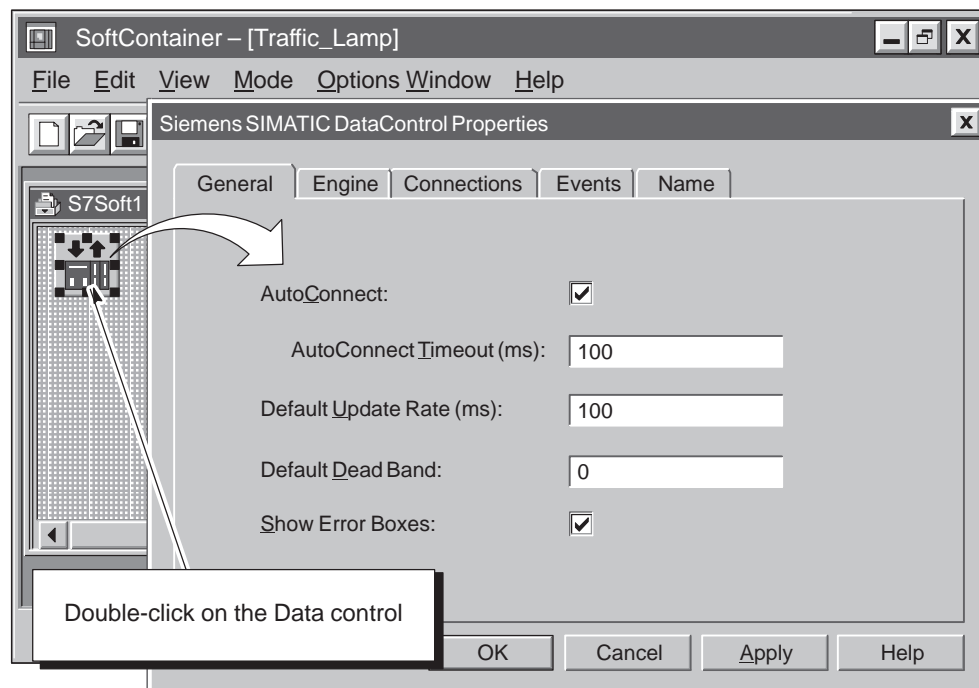

Figure 3-15 Accessing the “Properties” Dialog Box for the Data Control
2. As shown in Figure 3-15, double-click on the Data control (or click the right mouse button to display a pop-up menu and select the **S7Data1 Properties** menu command) to display the “Properties” dialog box for the Data control.